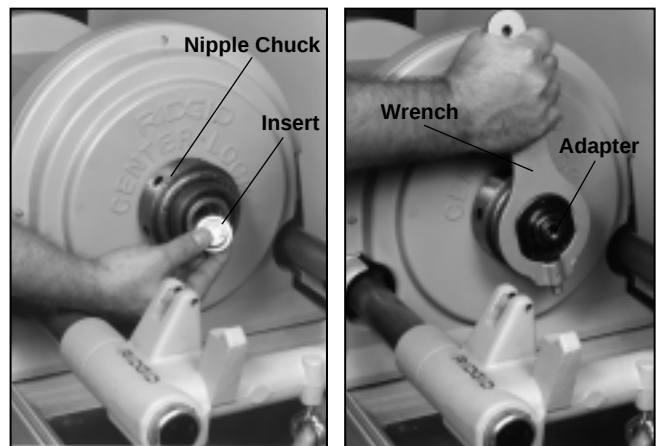

Figure 16 – Installation Insert and Adapters
2. Install No. 819 and 839 adapter (*Figure 16*).